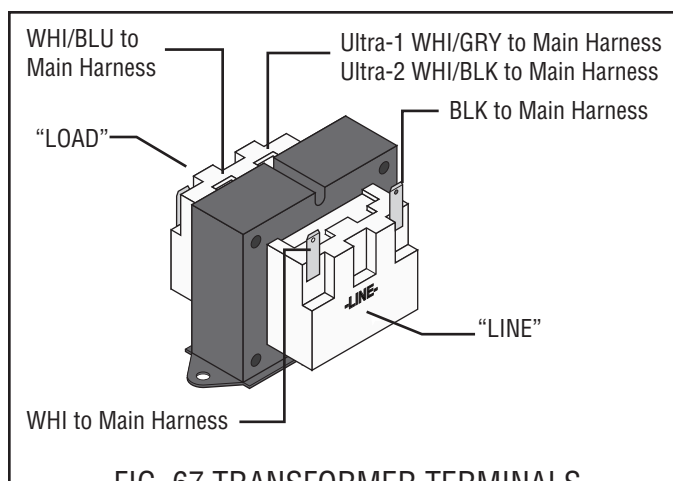

FIG. 67 TRANSFORMER TERMINALS
7. Refer to Fig. 67 and reconnect the wires.